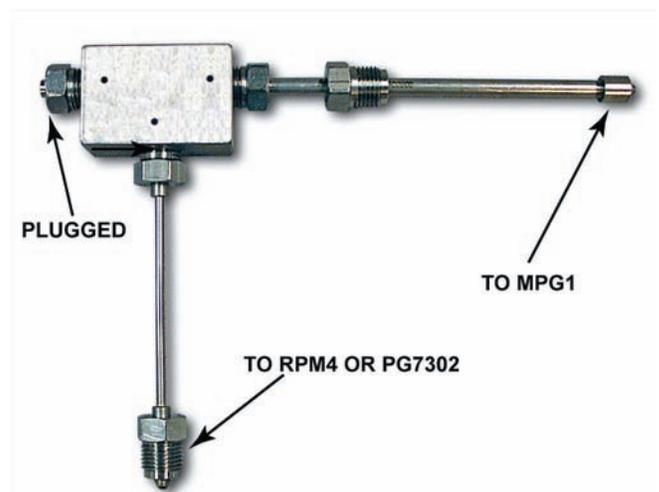

Figure 1: Two nipples installed in 3-way tee.
- ❶ **Remove Plugs from MPG1 and RPM4 or PG7302:** Unscrew the glands from the test ports of the MPG1 and RPM4 or PG7302. Remove the collar and plug from inside each gland. There should be two plastic plugs and one stainless steel plug. The plastic plugs will not be used. Keep the stainless steel plug.
- ❷ **Install glands and collars onto flexible 5 in. nipples:** Slide a gland over a nipple so that the threads of the gland face outward. Next, screw a collar onto the nipple by turning it to the LEFT. Allow two nipple threads to show between the collar and nipple tip.
- ❸a **RPM4 – Install glands and collars onto the 6 in. nipple.**
- ❸b **PG7302 – Install glands and collars onto the 12 in. nipple.**
- ❹ **Install nipples into three way tee:** Install the 5 in. nipple into the center port of the three way tee. Install either the 6 in. or 12 in. nipple into either of the end ports on the three way tee as shown in Figure 1. Tighten the nipples with a 5/8 in. wrench or crescent wrench. The thick nipple on the right connects to the MPG1. The thin nipple in the center of the plug connects to the RPM4 or to the PG7601. In Figure 1 the left port is currently plugged, but the remaining thin 5 in. nipple can go in the left port and connect to the DUT.